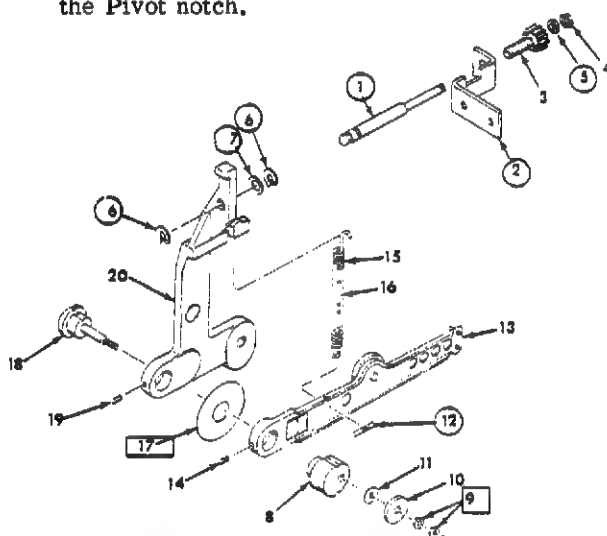
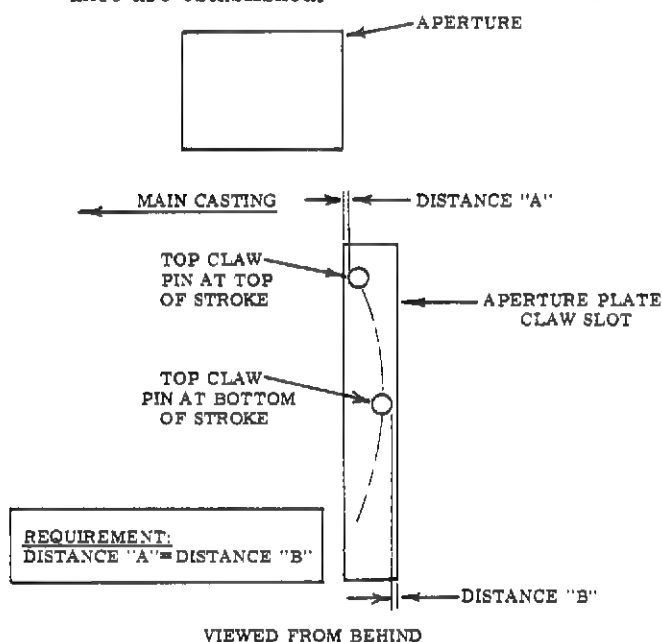

Figure 3-21. CLAW ARM ADJUSTMENTS
Figure 3-22. SIDE CLEARANCE
A good starting position for the Pivot (18) (Figure 3-21) places its eccentric pin at about 7 o'clock when viewed from the front of the projector. (See Figure 3-25) The notch in Bushing (8) should be slightly below the notch in Pivot (18) so an imaginary line drawn across the top of the Bushing notch aligns with the bottom of the Pivot notch.
Before attempting any adjustments, manually rotate the inching knob to make sure the Claw Arm pins do not strike the sides of the Aperture Plate Claw Slot. At the top of the Claw Arm Stroke, the Top Claw Arm Pin will be nearer the inside edge of the Aperture Plate Slot (Figure 3-22). At the bottom of its travel, this Pin will be nearer the outside edge of the Aperture Plate Slot. Loosen Screw (14) and adjust Bushing (8) (Figure 3-21) so these two distances are equal. (Removing the Lamphouse Cover and viewing the Pins from behind the Aperture Plate aids in this adjustment.)
1. Thread an old film in the projector (do not use a good film for this adjustment) and adjust the Framing Knob to eliminate any frame lines at the top or bottom of the projected image with the projector running in FORWARD. If excessive noise results when the Framing Knob is moved, stop the projector and check the location of the Claw Arm Pins in the sprocket holes of the film. When Framing is correct, the Top Claw Arm Pin should be the same distance from the inside edge of the sprocket hole at the top of its stroke as it is from the outside edge of the sprocket hole at the bottom of its stroke. (Figure 3-22). Loosen Screw (14) and adjust the Bushing (8) (Figure 3-21) so these two distances are equal. Remove the film from the projector after proper Framing and Side Clearance are established.
8. Adjust stroke by placing the Shuttle Cam Adjusting Tool (ST- 5884) on the Claw Arm Pivot (18) (Figure 3-21), loosening Screws (14) and (19) and rotating the Pivot (18) and Bushing (8) the same amount in the same direction simultaneously. Turn counterclockwise (as viewed from the front of the projector) to shorten the stroke, and clockwise to lengthen the stroke (Figure 3-25).
sprocket hole at the top of its stroke as it is from the outside edge of the gauge sprocket hole at the bottom of its stroke. (Figure 3-22)
Loosen Screw (14) and adjust the Bushing (8) (Figure 3-21) so these two distances are equal.